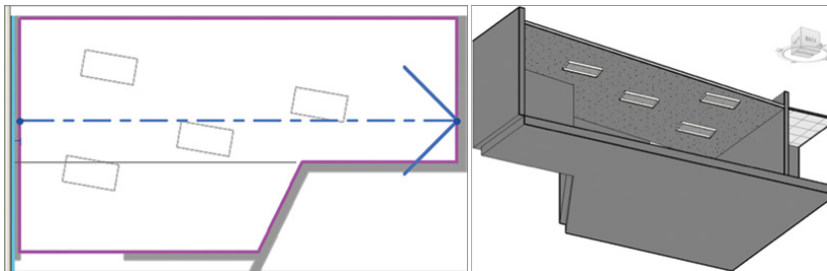

FIGURE 3.40 Adding a slope arrow to the ceiling
2. Place a slope arrow as shown at the left in Figure 3.40. Set the Height Offset values for the Tail and Head to 0 and 3' (1 m), respectively.
3. Finish the sketch. The result (on the right in Figure 3.40) is shown in 3D using a section box. The lights even follow the revised ceiling slope!